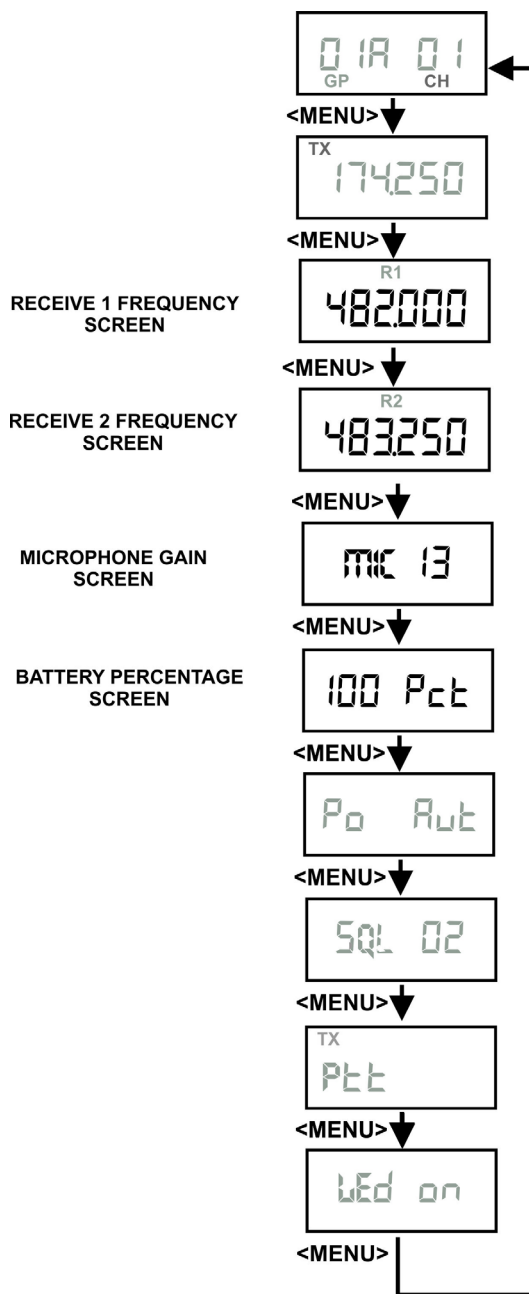

FIGURE 78.
1. Set the **unit** to the desired user-defined group and channels. *See Groups and Channels Instructions. The menu structure in Figure 78 indicates how to get to the receive frequency screen.*